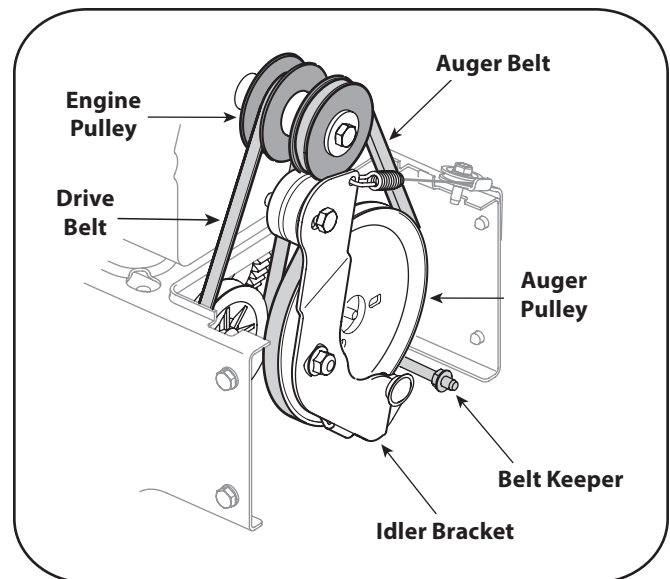

Figure 7-2
2. Slip the front auger belt off of the engine pulley, pushing it forward and rolling in off of the pulley. See Figure 7-2.
5. Place the new drive belt on the engine pulley. See Figure 7-2.